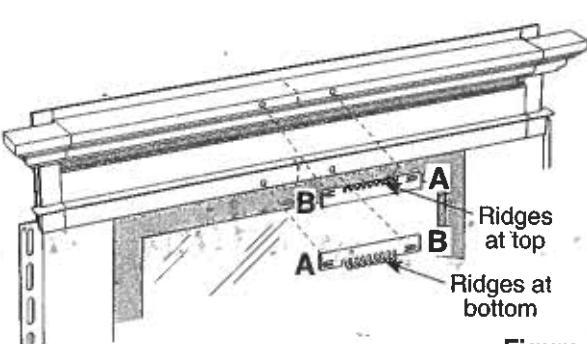

Figure 12
11. Install clips by placing end "A" of clip in first and then snapping in end "B" (Figure 12). Once clip is snapped in, slide clip back $1/16"$ to ensure clamping legs are fully locked into place.